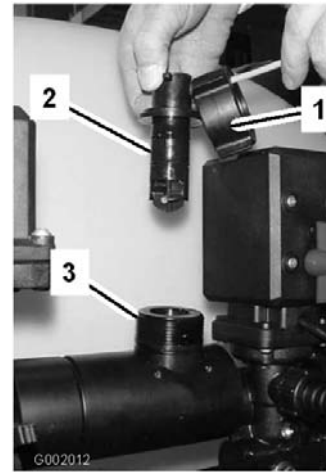

Figure 67
- Remove the retaining cap from the flowmeter body (Figure 67).